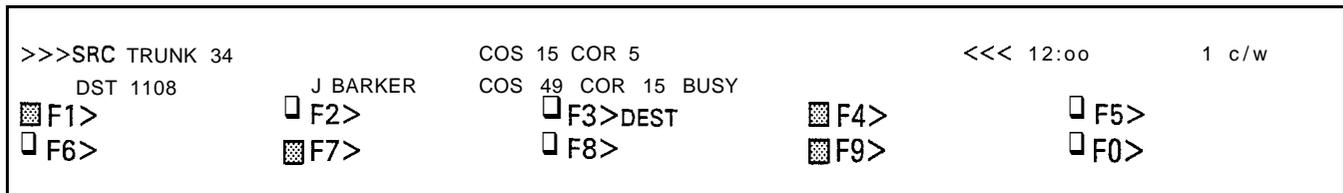

Figure 3-20 Answering a Busy Recall
3.26 The Attendant may ring the destination party again by pressing softkey F8 (RING AGAIN). If at that time the extension is busy then the LCD will display the available functions for a busy destination (SOURCE, CALLBACK, MSG WAITING AND OVERRIDE). The Attendant may also camp the source onto the destination by releasing the call. If the extension does not answer the camp-on then the source party will recall to the Attendant Console; refer to Figure 3-20. The Attendant at this point may switch back to the destination and override the call.